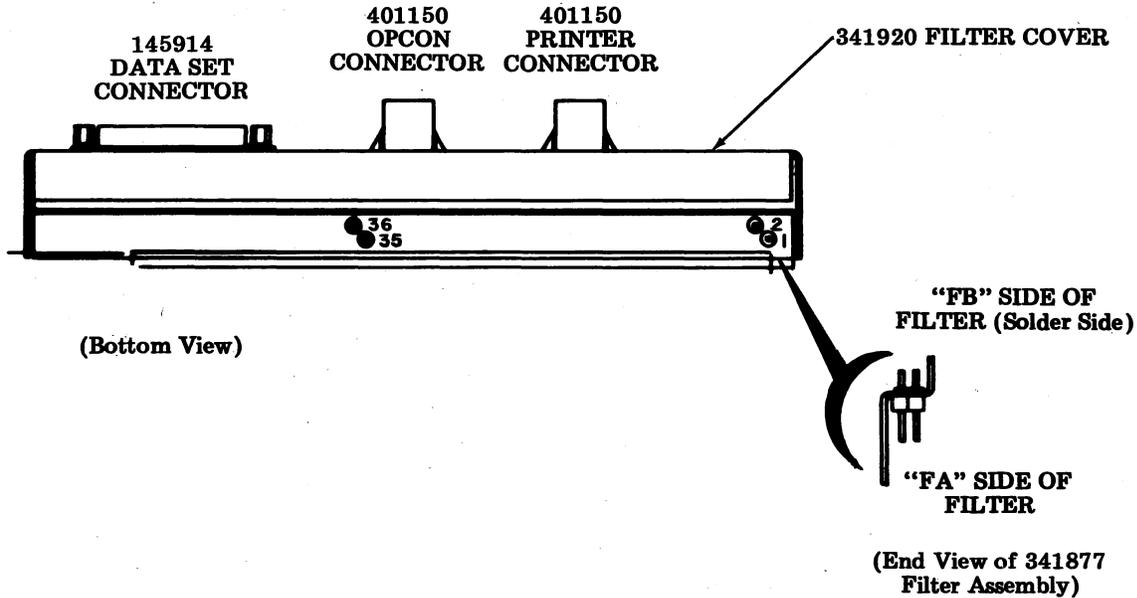

Fig. 13—Filter Assembly
4.17 Remove the 341920 filter cover (Fig. 13) from the filter assembly by removing two round head screws on the front surface of the fan assembly.
4.19 Install four 341885 leads between the filter assembly and printer connector (Fig. 13) as follows:
4.41 Remove the four round head screws that attach the filter cover to the filter assembly (the screws are on the front side of the filter assembly), and separate the cover from the filter assembly (Fig. 13).
4.58 Remove the four round head screws that attach the filter cover to the filter assembly (the screws are on the front side of the filter assembly), and separate the cover from the filter assembly (Fig. 13).